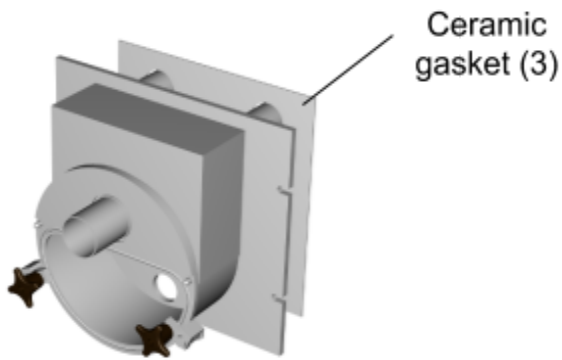

FIGURE 4
1. Place the square ceramic fiber gasket (3) on the burner body (see Figure 4).